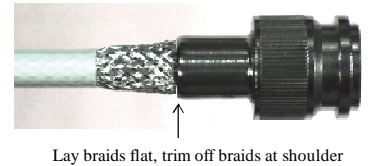

Figure 5
- 8) Position crimp ferrule over braids, up to connector body shoulder (Fig. 5). Secure the body while locating ferrule, to avoid shifting the center contact. Trim any stray braids at the shoulder prior to seating the ferrule against the connector body.
- 9) Verify center contact position prior to crimping. Crimp ferrule with M22520/5 - 01 hex crimp tool and M22520/5-41 crimp die set, cavity A (.290" hex). Apply secondary crimp (aligned with the first) to achieve a crimp over the full length of the ferrule (Fig. 5).